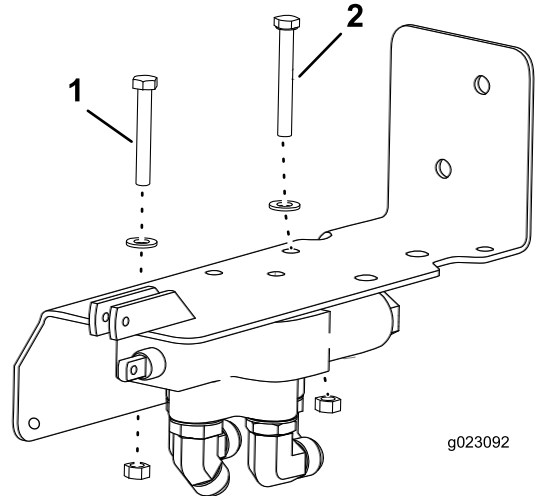

Figure 12
3. Secure the valve to the bracket using 2 bolts (5/16 x 2-1/4 and 5/16 x 2-1/2 inch), 2 washers (5/16 inch), and 2 locknuts (Figure 12).